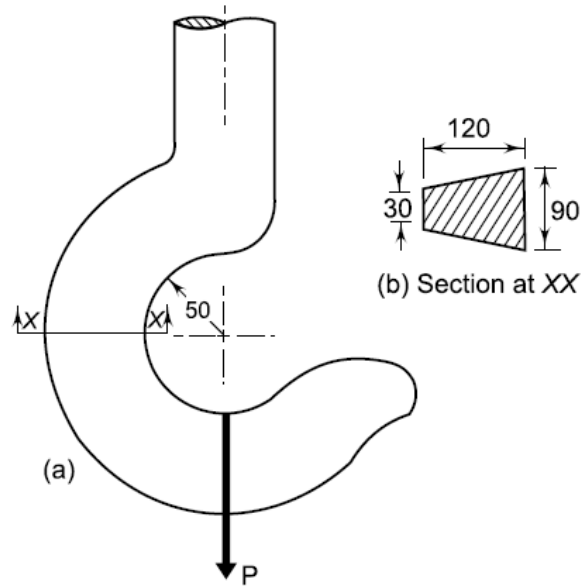

Figure 1
- Q.4** (a) With neat sketch explain the 'inertia bending forces' acting on connecting rod of an Internal Combustion (IC) engine. **03**
- (b) Describe the design procedure of a crank shaft of an Internal Combustion (IC) engine. **04**
- (c) A crane hook having an approximate trapezoidal section is shown in Figure 1. The hook is made of plain carbon steel 45C8 (yield strength = 380 MPa) and the f.o.s. is 3.5. Determine the load carrying capacity of the hook. **07**